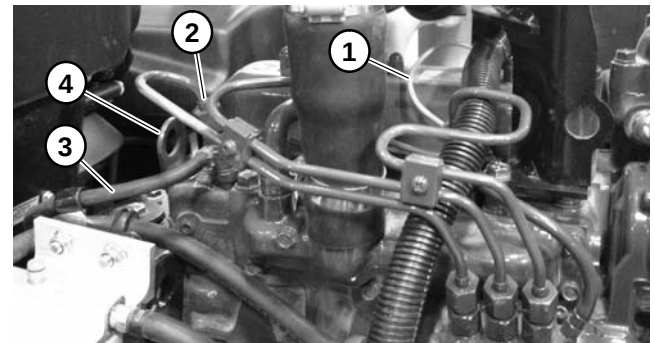

Figure 12
B. Glow plug bus (Fig. 12) and fuel stop solenoid.
12. Remove cable ties securing the wire harness to the front lift tab and other engine parts. Connect hoist or lift to the front and rear lift tabs (Fig. 12 and 13).
3. Connect hoist or lift to the front and rear engine lift tabs (Fig. 12 and 13).
- C. Glow plug bus (Fig. 12) and fuel stop solenoid.